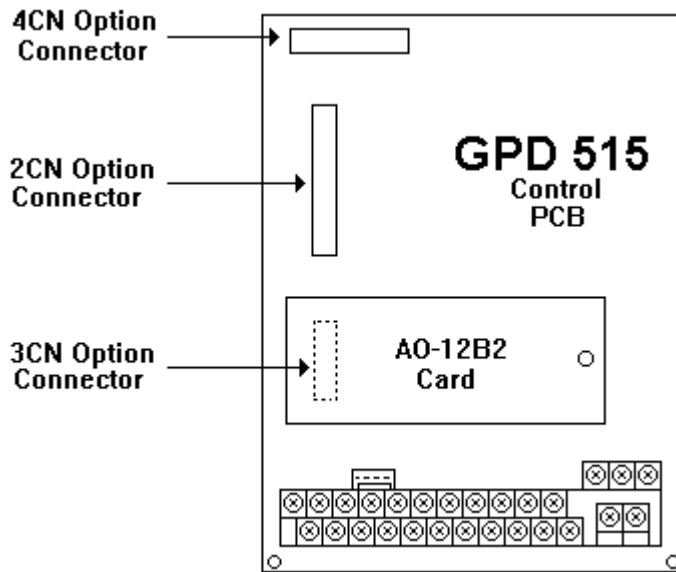
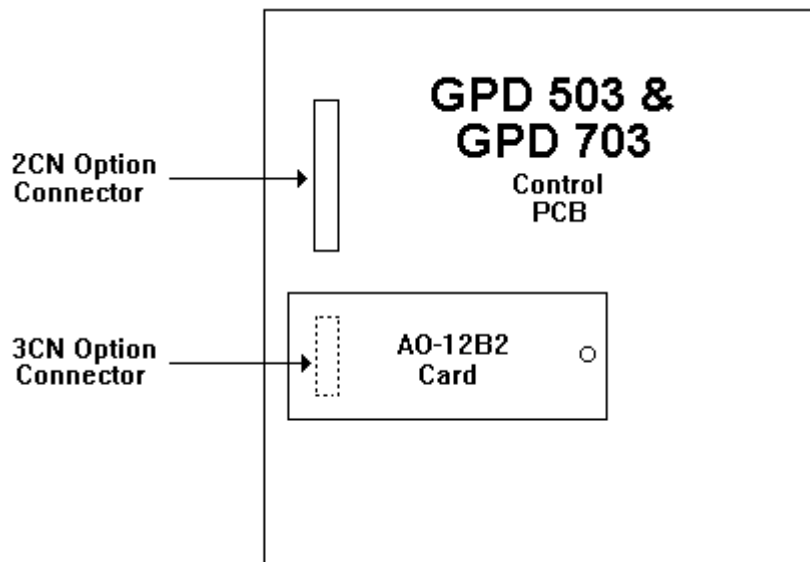

Figure 1. Installation of Isolated Analog Monitor (AO-12B2) in GPD 515
Figure 2. Installation of Isolated Analog Monitor (AO-12B2) in GPD 503 or VCD 703
4. See Figure 1 (GPD 515) or Figure 2 (GPD 503 or **VCD 703**). Install the option on the main control board, 1PCB, and ensure 3CN is properly connected. Make sure Electrostatic procedure is followed.